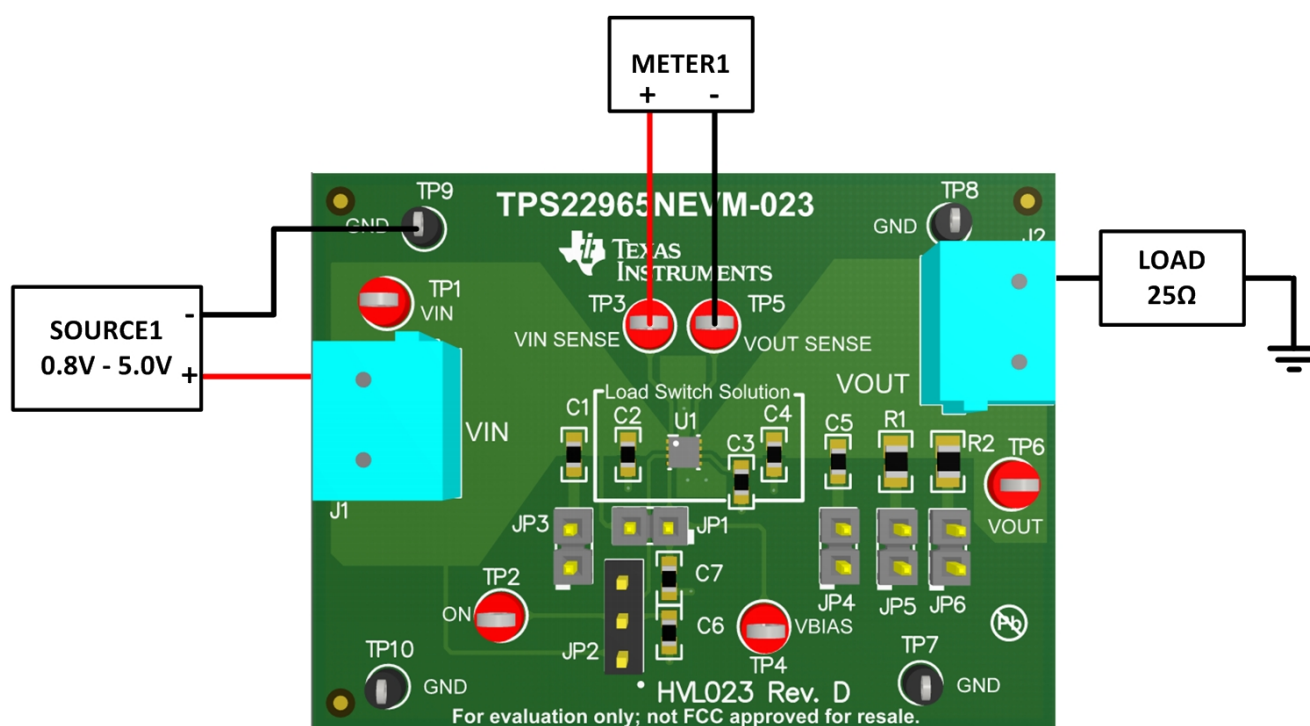

Figure 3. TPS22965EVM-023 Recommended  $R_{ON}$  Test Setup
1. Setup the EVM as shown in Figure 3.